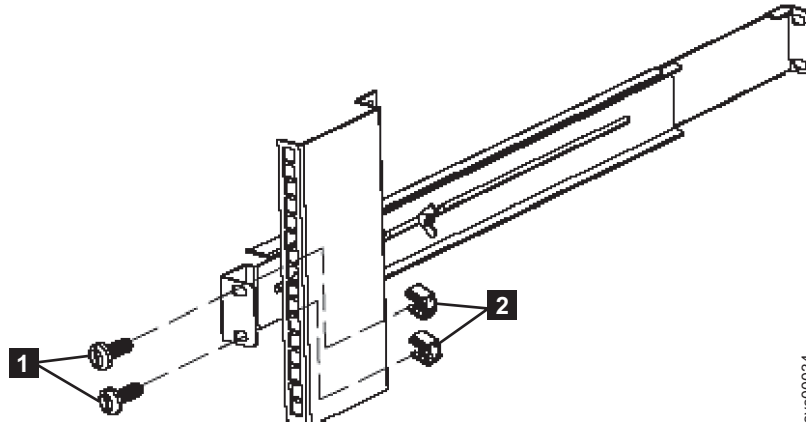

Figure 197. Securing the rear rail on the 2145 UPS-1U
6. Using two M6 × 10 screws (1 in Figure 197) and two clip nuts (2), attach the rail to the rear of the rack.